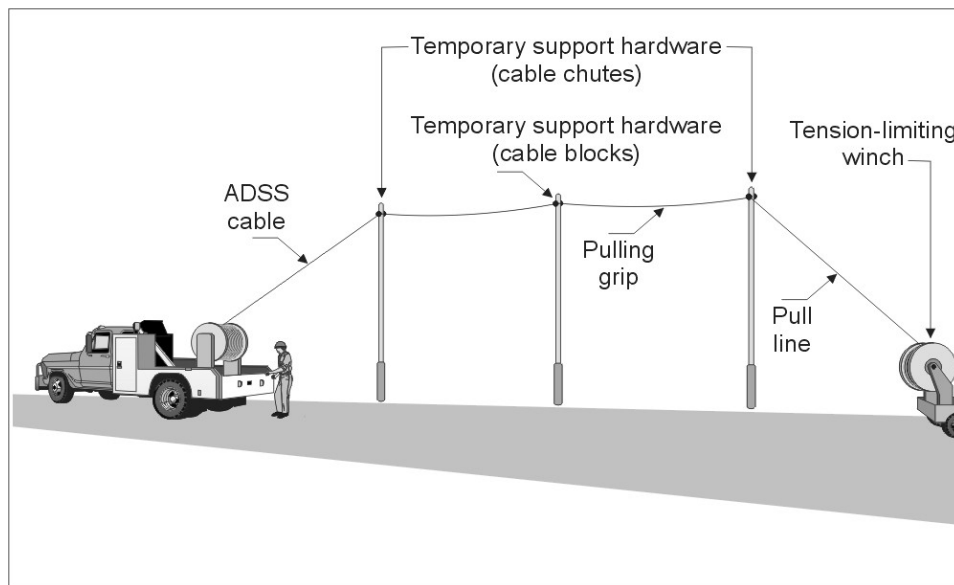

Figure 4: Stationary Drum Installation Method
Using the stationary drum method of aerial cable installation, the cable is pulled along the cable route through temporary support hardware installed for this purpose (Figure 4). When the cable is in place between splice points, the cable is tensioned and terminated at each dead-end pole along the route. The cable spans are then lifted out of the temporary support hardware and placed in tangent clamps at each intermediate pole.
- Pay out the cable from the top of the drum as shown in Figure 4 to eliminate possible cable contact with the ground.